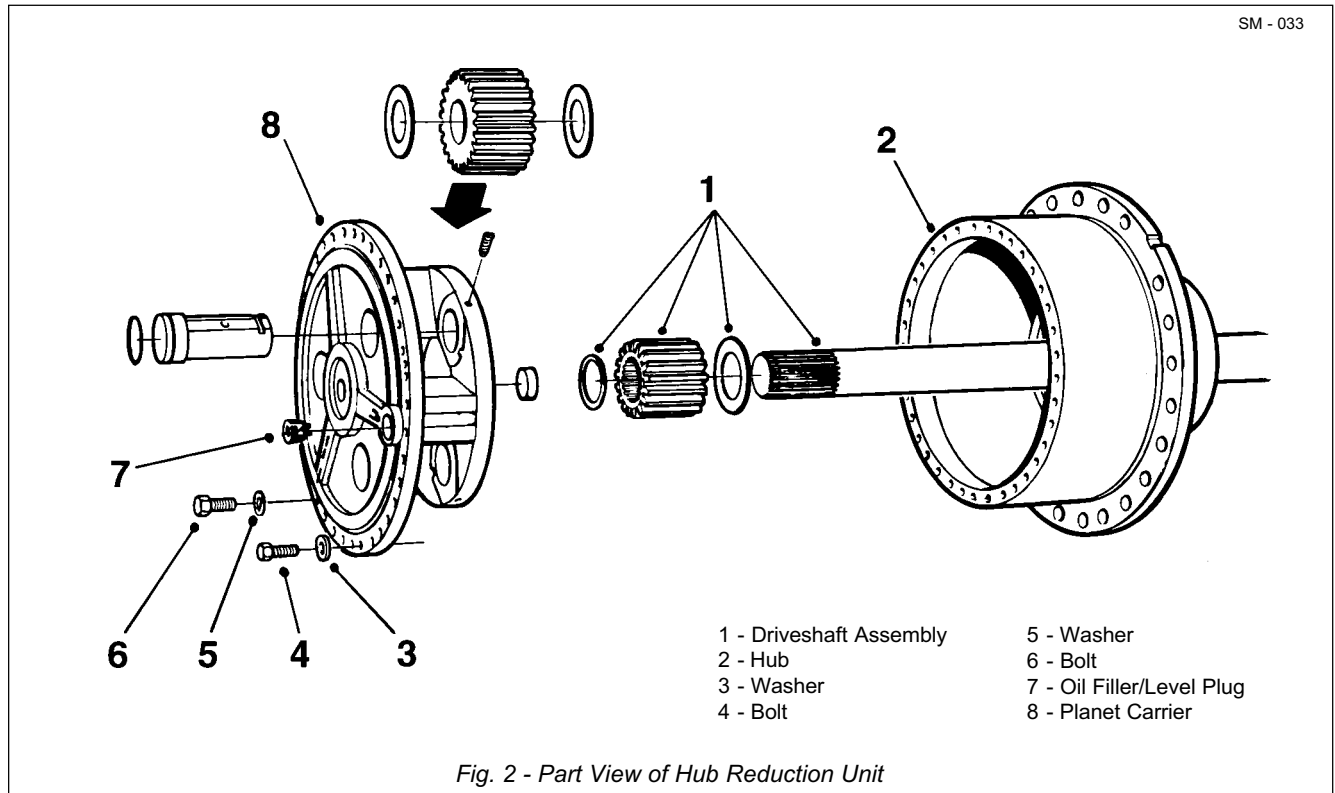

Fig. 2 - Part View of Hub Reduction Unit
11. Rotate hubs to bring bolts (6, Fig. 2) to their lowest point. Unscrew and remove filler/level plugs (7, Fig. 2). Remove bolts (6, Fig. 2) and washers (5, Fig. 2) to drain the oil from the hubs.
12. Unscrew and remove oil filler/level plug (82) and drain plug (84) to drain oil from drive head.
1. Remove bolts (4, Fig. 2) and washers (3, Fig. 2).
2. Using suitable lifting equipment, pull off planet carrier assembly (8, Fig. 2) and place on bench, small diameter down.
3. Pull out driveshaft assembly (1, Fig. 2) from hub to disengage the shaft splines from wheel (97).